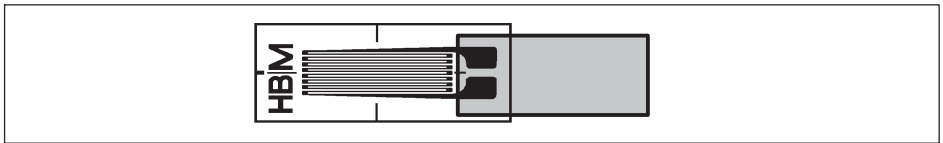

Fig. 5.3 Hinge-like connection for SGs without leads
- ▶ In strain gages without leads, create the hinge-like connection as shown in Fig. 5.3 (without additional solder terminals).